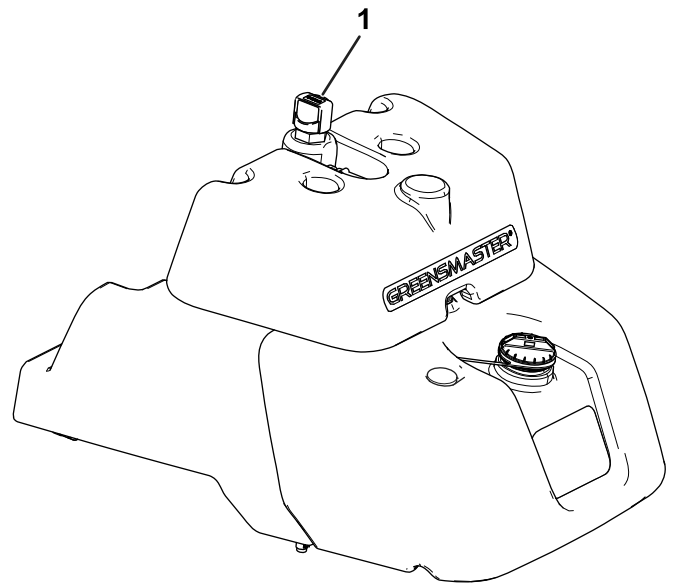

Figure 43
- If your tank does not have a sight window, locate the dipstick on the top of the main hydraulic tank (Figure 43) and proceed to step 3.